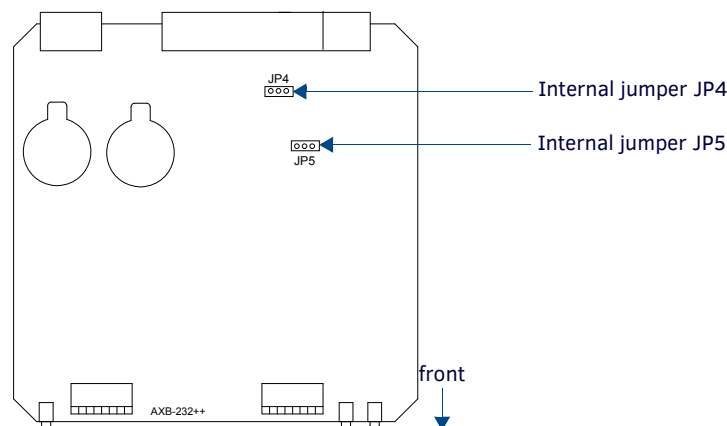

FIG. 2 Location of internal jumpers
4. Locate the JP4 jumper (FIG. 2).
4. Locate the JP5 jumper (see FIG. 2 on page 7).